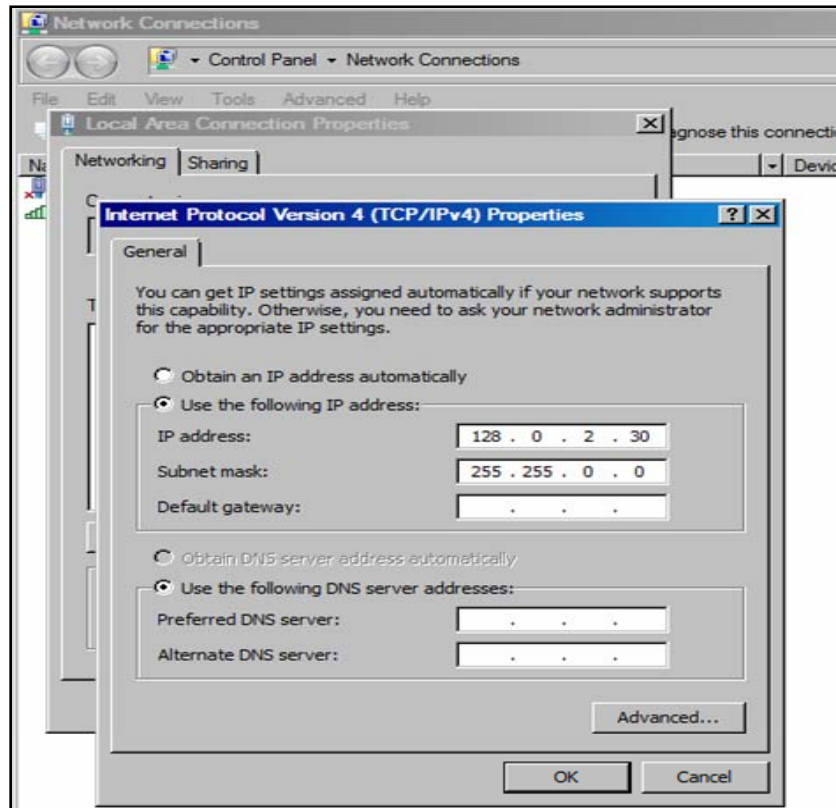

Figure 5-4. Manually Enter the IP Address
5. Click on the second option, *Use the Following IP Address*; **Figure 5-4**, and manually enter the IP Address: 128.0.2.30. The Subnet mask will automatically default to 255.255.0.0.